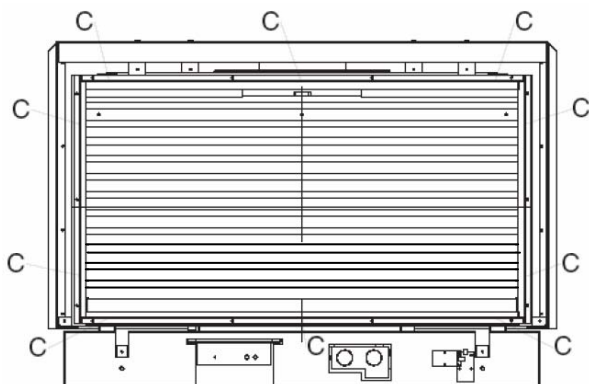

Fig. 8
- 3) Remove the glass by removing the glass clamps C (see fig. 8) for instance with a screwdriver. Careful when removing the glass! Wear gloves! Before placing the glass back, be sure that there are no